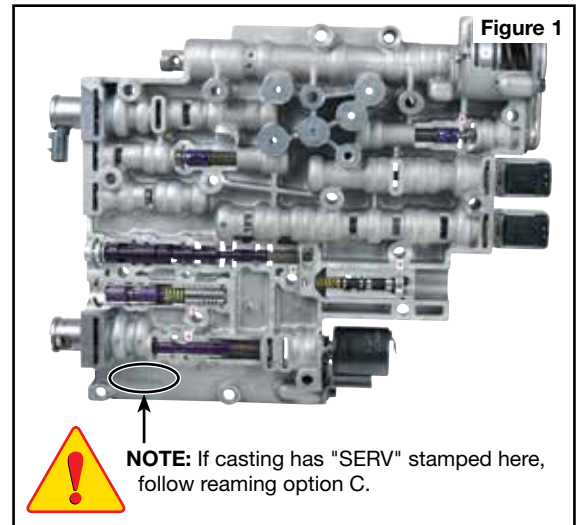

Figure 1
– GM Service valve body (Figure 1):
c. Isolator valve was .473" dia. – GM Service valve body (Figure 1):